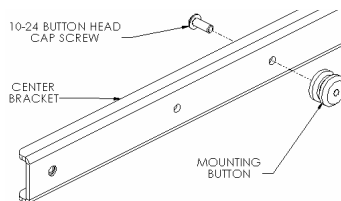
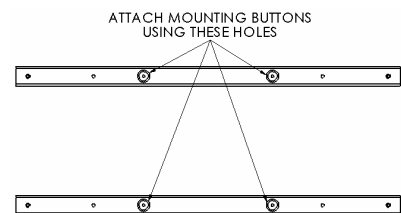

Figure 2
Figure 3
2. **Chief Q-latch Button Installation (Used with MSR, MTR, MWH, MWR, MCS and MCD mounts):** Using a 10-24 button head cap screw inserted from back side of bracket, secure mounting button, with chamfered hole of mounting button (larger surface) facing bracket, to center brackets (four places) (see Figure 2 & Figure3).